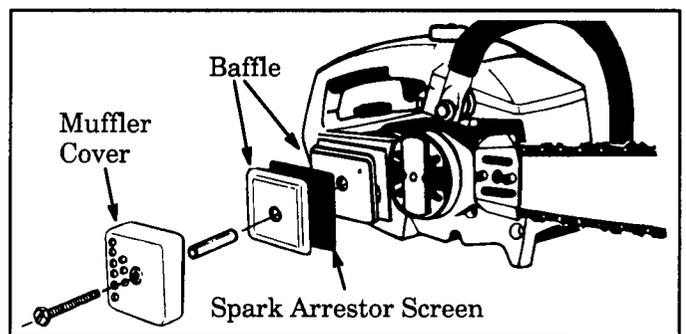

Figure 36
3. Remove the muffler cover. Figure 36 .